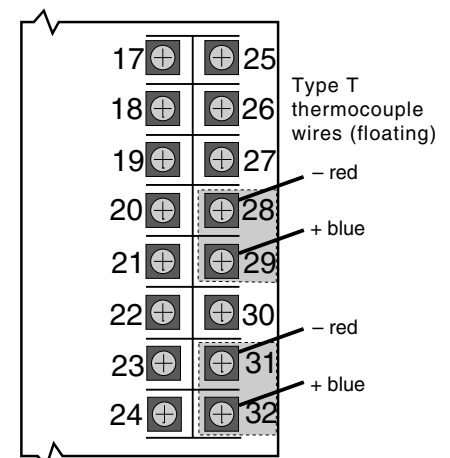

Figure A4.5
1. Connect the two pairs of T/C wire to terminals 28, 29, 31 and 32 as shown in *Figure A4.5*. Make sure the T/C wires are floating (disconnect from the multimeter also), and are not touching each other.